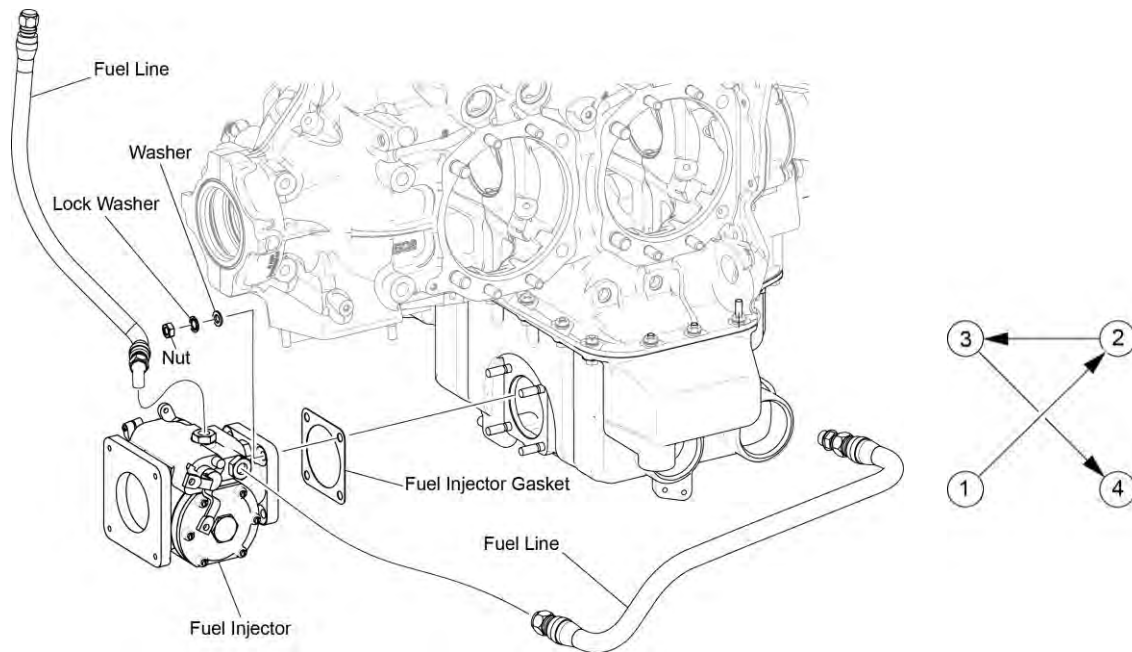

Figure 6
- (1) Put a fuel collection container under the fuel injector (Figure 6).
- (2) Apply an identification label to each fuel line and disconnect the fuel lines attached to the fuel injector.
- (3) Let fuel drain out of the fuel injector and fuel hoses into the fuel collection container.
- (4) Hold the fuel injector and remove the four nuts, lock washers, and washers from the fuel injector. Discard the lock washers.
- (5) Remove the fuel injector and its gasket. Discard the gasket.
- (6) Remove the fuel collection container.
- (1) Align the fuel injector on the engine with a new gasket (Figure 6).
- (2) Install four nuts, each with a washer and a new lock washer hand tight.
- (3) Refer Figure 6 for the crisscross pattern torque sequence and torque the nuts to: